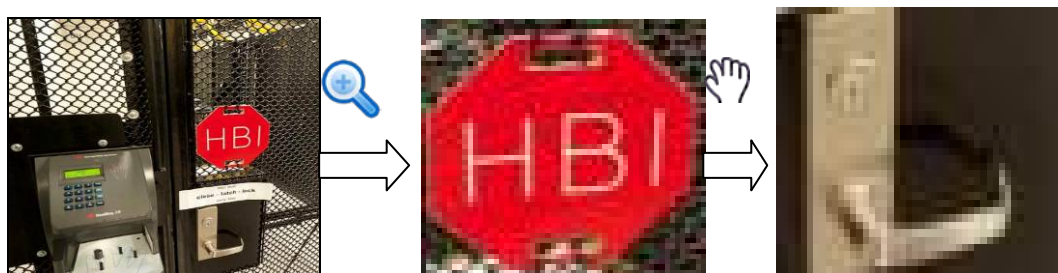

Figure 3-61
- Put the middle button at the center of the zone you want to zoom in, and move the mouse, you can view an interface shown as in Figure 3-61.